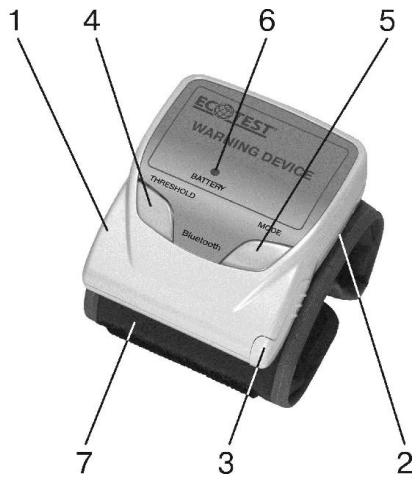

Figure 4 – Appearance of the wrist warning device of the DKS-02PN "CADMIUM" dosimeter
Appearance of the wrist warning device is shown in Figure 4.
1.4.1.4 The wrist warning device is done as a wristlet (Figure 4) that consists of two basic parts – a plastic body and reinforced strap with the hook and loop fastener for securing the unit to an arm.
1.4.2.3 The wrist warning device (Figure 4) is designed as a plastic housing consisting of the top (1), bottom (2) covers, and the battery compartment lid (3). In its top part the THRESHOLD (4), MODE (5) buttons and the BATTERY LED (6) are located. With the help of the strap (7) the warning device is fastened to a user's wrist. The wrist warning device is powered from a battery of two AAA type nickel metal hydride storage batteries.